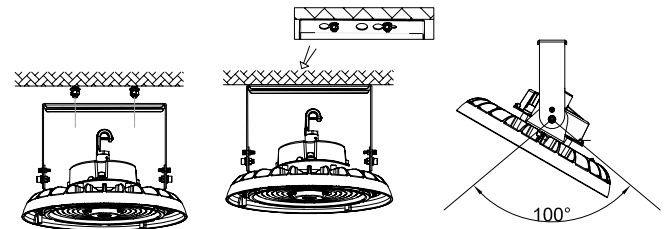

Figure 5
3. Align the bracket holes with the screws, and push the fixture to one side and fix it. (figure 5)